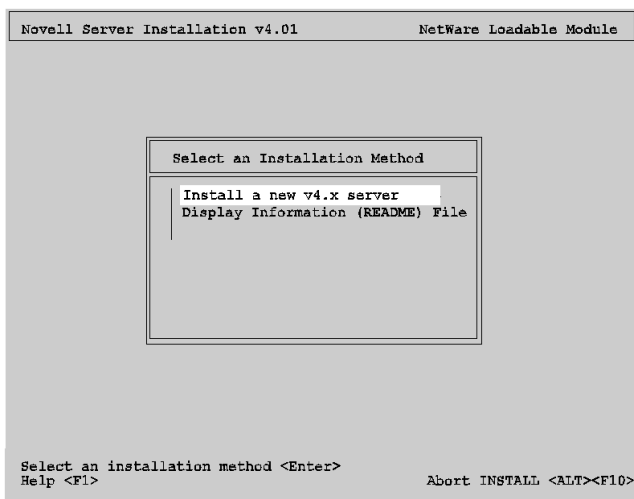

figure 8-1 Novell 4.x Installation
2. Type **INSTALL** <ENTER> to initialize the installation routine. A screen similar to the following will be displayed (see figure 8-1).